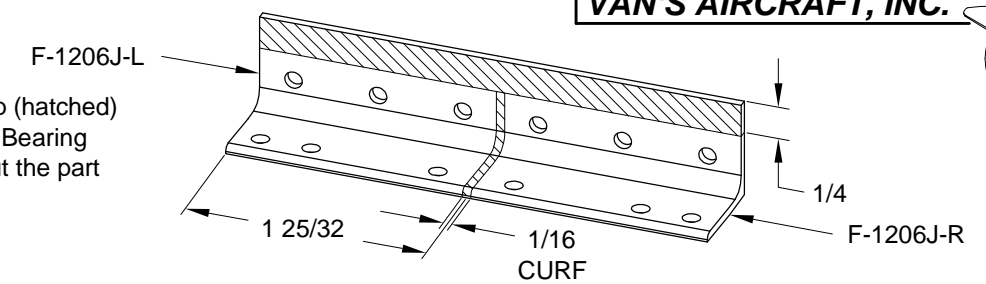

FIGURE 3: TRIMMING THE BEARING BRACKET ANGLE
Step 7: Trim off the top (hatched) portion of the F-1206J Bearing Bracket Angle, then cut the part in half. See Figure 3.